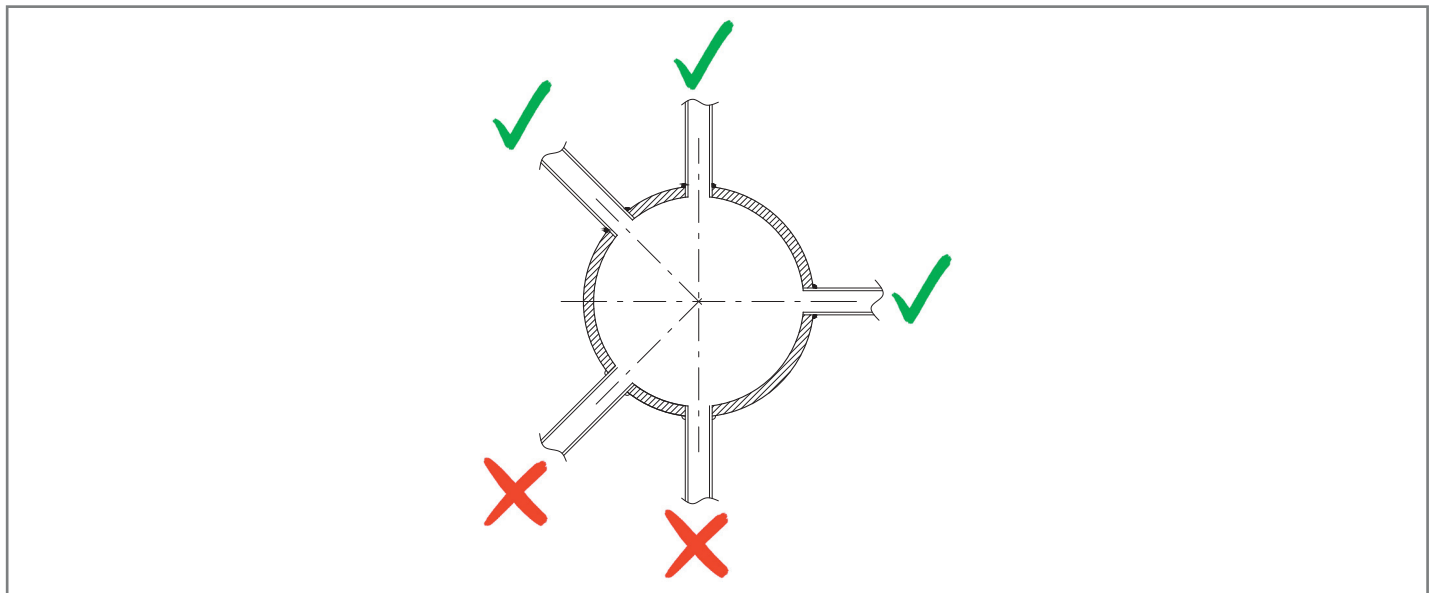

Fig. 6.14. Welded pipe connections
- pipe connections are always welded on the top or at max 90° to the axis of the pipe (refer to Fig. 6.14);